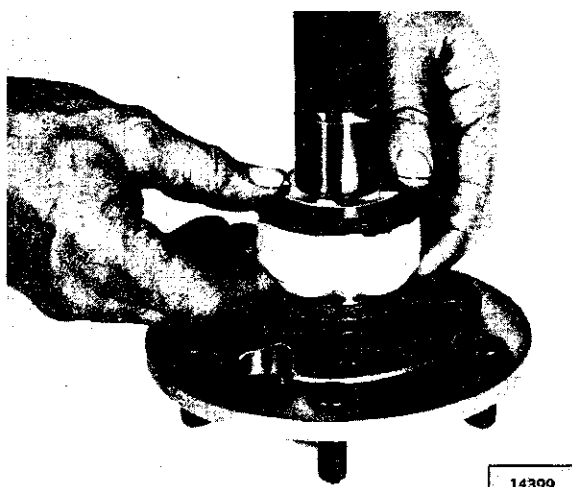

FIG. N-11—FORCING GREASE INTO BEARING
- d. With the tape in place, push the seal upward toward the bearing assembly forcing the grease between the rollers and through the bearing assembly, make certain the bearing assembly is packed completely full of grease. Refer to Fig. N-11.